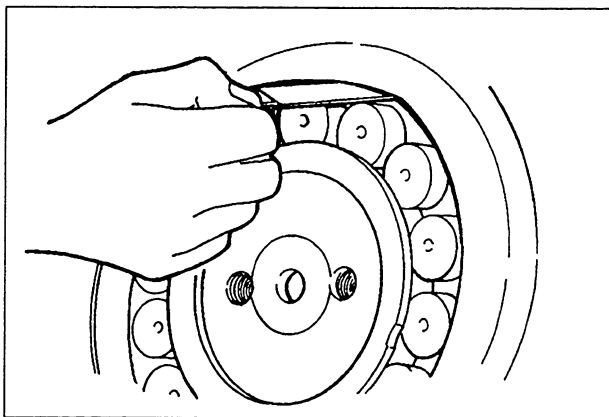

Figure 4-6. Checking Bearing Clearance
E. Place bearing retainer (10) on bearing housing (6), and secure it to the bearing housing with locking clips (12) and capscrews (13). Refer to Appendix A for correct torque values. Use tie wire (11) to secure the locking clips.
F. Using feeler gauge, check the internal clearance between the top bearing roller and the bearing outer race (Figure 4-6). Before installation in the vibrator housing, the clearance should be as shown in Table 4-2.
2. Install two of the subassembled bearing housings (6) in the **sheave end** of vibrator housing (20) as follows: